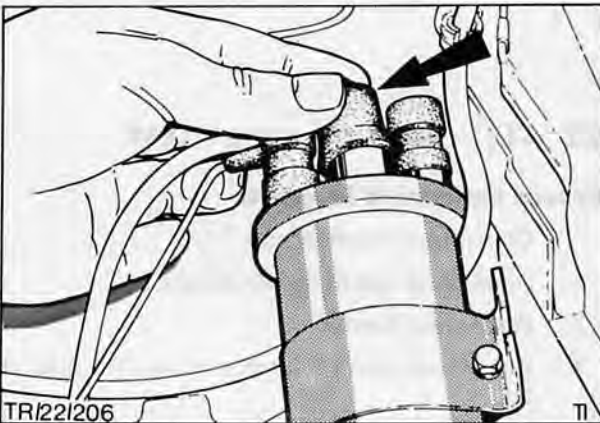

Fig. 56. HT lead removal from coil
3. Disconnect HT lead at coil, Fig. 56, unclip cap and position clear of the distributor body.